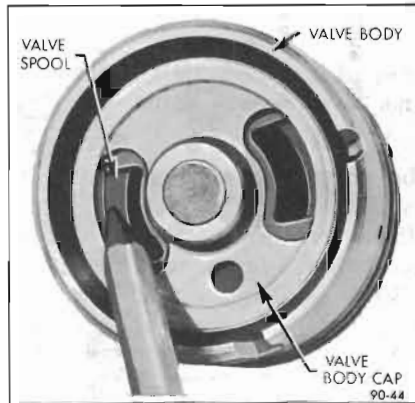
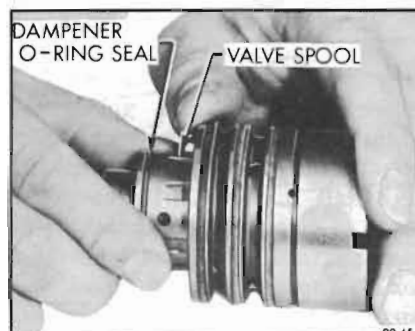

Figure 90-44—Separating Valve Spool From Valve Body
Figure 90-45—Withdrawing Valve From Valve Body
3. Remove the valve spool by holding the valve assembly in one hand with the stub shaft pointing downward. Insert the end of a pencil or wood rod through the opening in the valve body cap and lightly push on the valve spool until it is far enough out of the valve body to be withdrawn. See Figure 90-44. Withdraw the spool with a steady rotating pull to prevent jamming. See Figure 90-45. If slight sticking occurs, make a gentle attempt to reverse the withdrawal procedure. If this does not free spool, it has become cocked in the valve body bore.